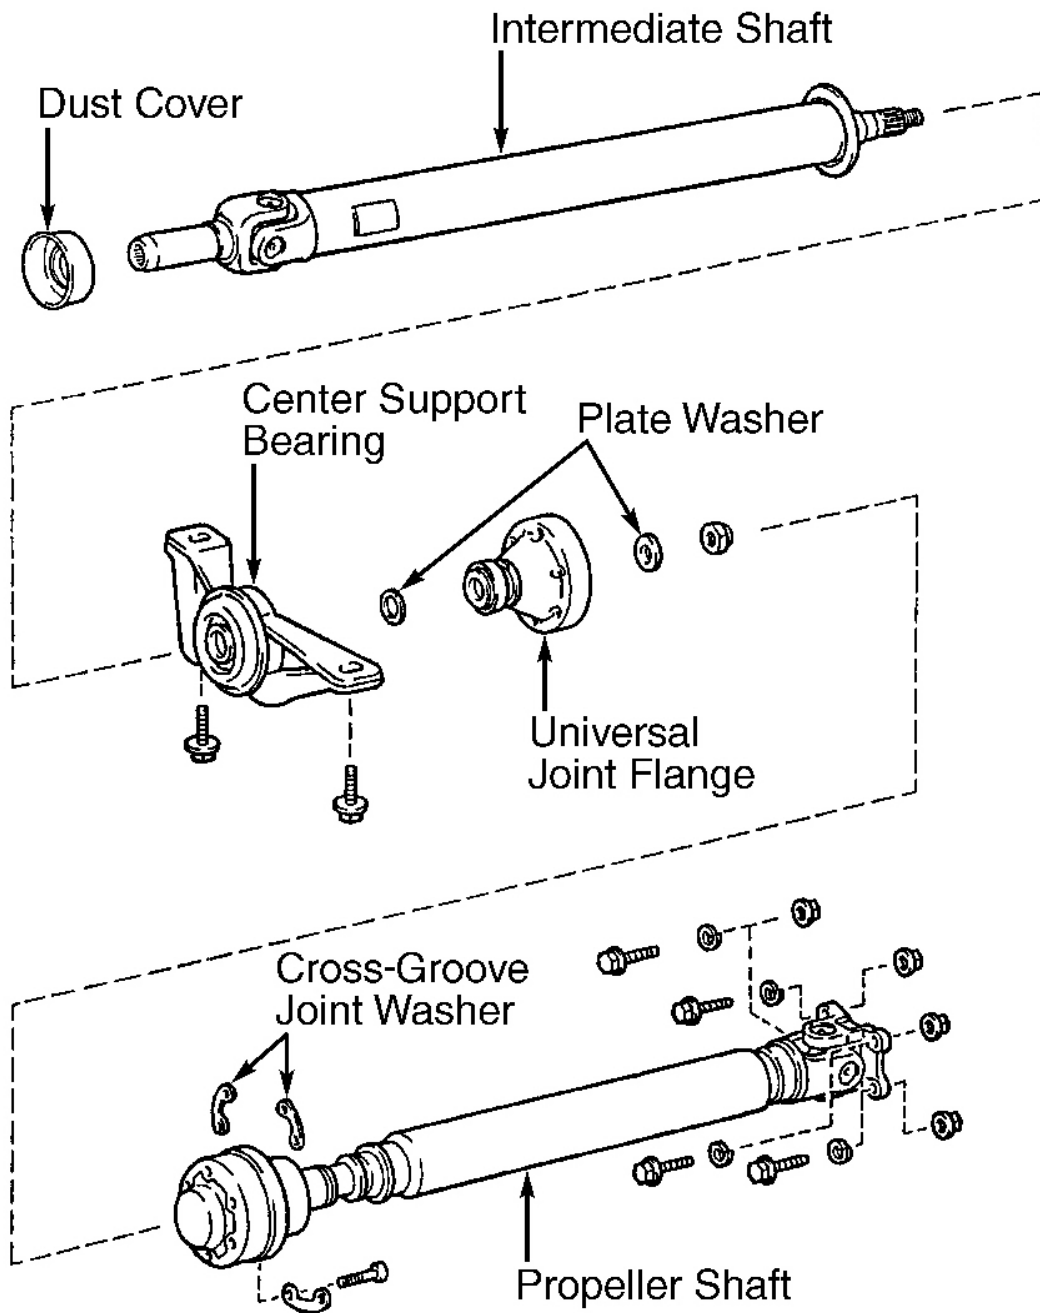

Fig. 1: Exploded View Of Drive Shaft Assembly
1. Place a piece of cloth around center universal joint boot to protect boot from damage. Depress brake pedal and loosen center universal joint set bolts 1/2 turn. See **Fig. 1** .